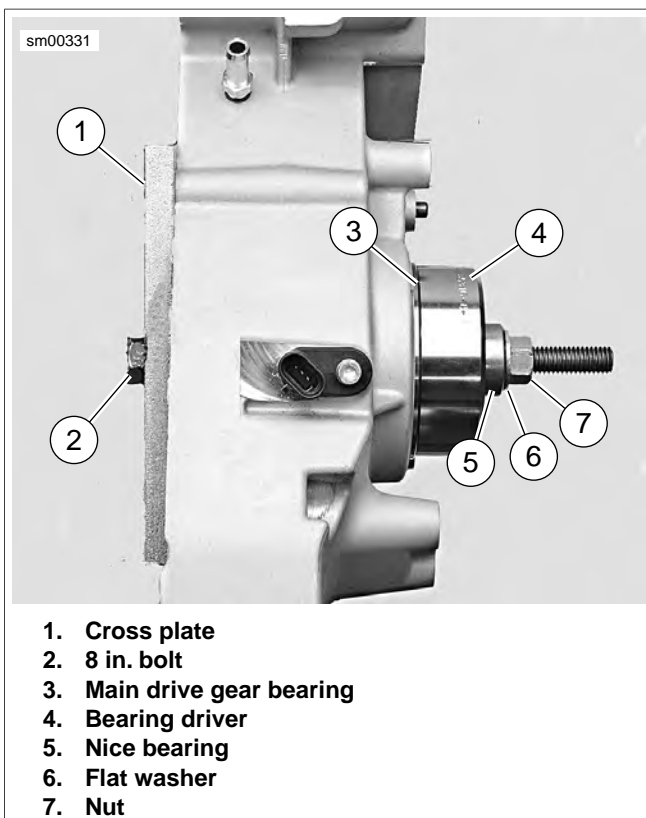

Figure 5-74. Installing Main Drive Gear Bearing
2. See Figure 5-74. Insert 8 IN. BOLT (Part No. HD-35316-4A) (2) through cross plate (1) and main drive gear bearing bore.
3. At outside of case, place main drive gear ball bearing (3), BEARING DRIVER (Part No. HD-35316-8) (4), nice bearing (5), flat washer (6) and nut (7) over end of bolt.